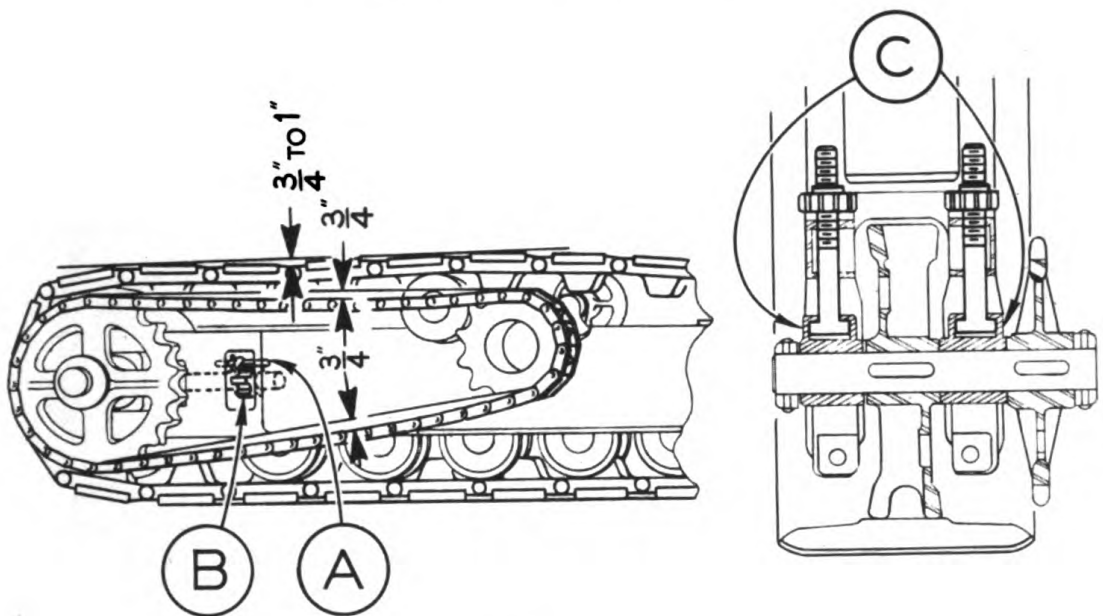

FIGURE 69
The right and left traction drive chains must have between  $\frac{3}{4}$ " to 1" sag at top and bottom as shown in Figure 69. It is important that the amount of sag be equal in both chains to evenly distribute the loads they carry and to insure straight traveling. When adjusting the drive chain there must be slack in the crawler belt because tightening the chain also tightens the belt. Remove lock pins (A) and turn adjusting nut on both the inside and outside adjusting bolts as required. The inside and outside bearings (C) must be kept in perfect alignment so that the traction drive chains will run true on the drive sprockets. Replace lock pins (A). Travel the machine forward the length of the crawlers. This brings all slack in the crawler belt to the top where it can be checked for proper sag which should be approximately  $\frac{3}{4}$ " to 1" as indicated.